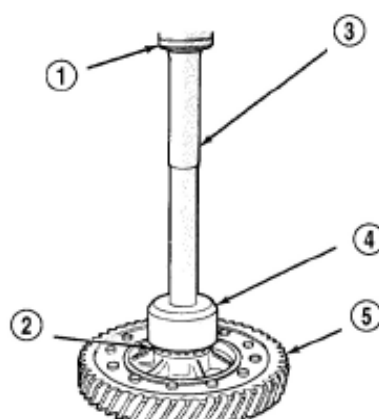

Figure 3-94 Installing differential bearing taper sleeve around ring gear
(5) Use hand press, lever C-4171 and tool L-4410 to press differential side bearing into the ring gear and casing (Figure 3-93and Figure 3-94).